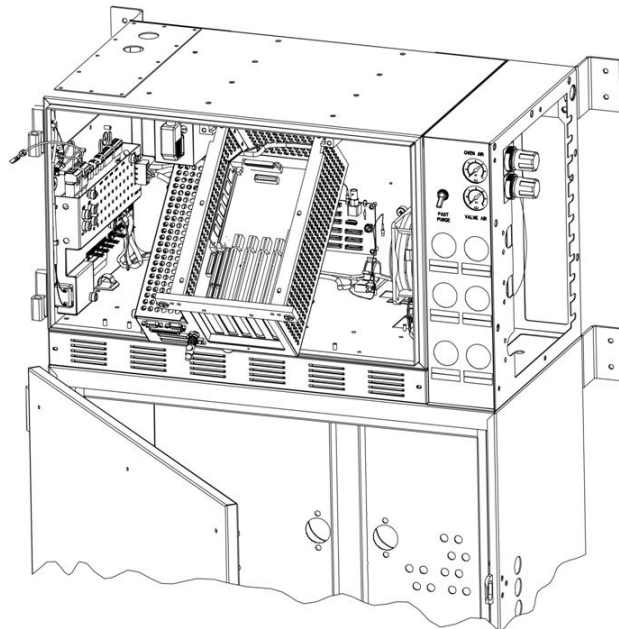

Figure 4-7: Positional Location of SYSCON2 in Electronic Enclosure
5.	Pull the SYSCON assembly cage forward so it rests on the rubber mounting foot, being careful not to damage any connected cables. Refer to figure 4-7
6.	Pull the SYSCON assembly cage forward so it rests on the rubber mounting foot, being careful not to damage any connected cables. Refer back to figure 4-7 in the previous procedure.